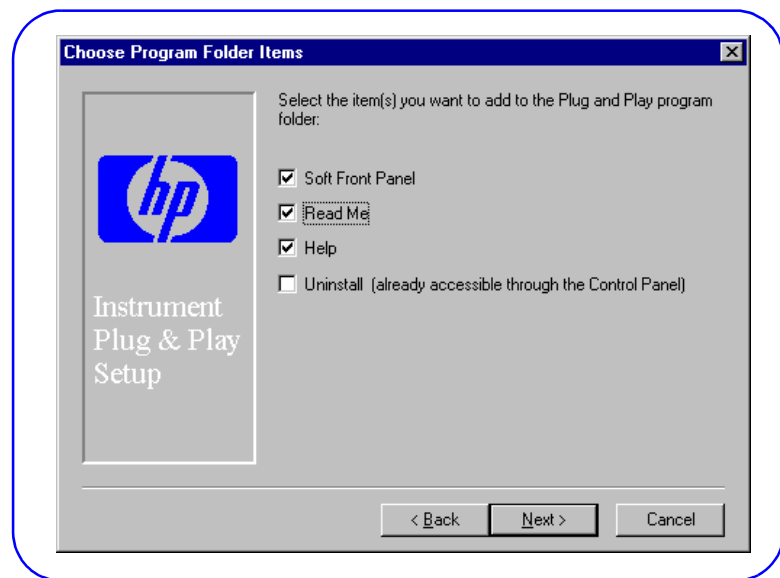

Figure 23. Choose Program Folder Items Screen
- 7 When the **Choose Program Folder Items** screen appears (see Figure 23), check the *Soft Front Panel*, *Read Me* and *Help* entries. Then, click *Next*. Follow the instructions to load the driver(s).